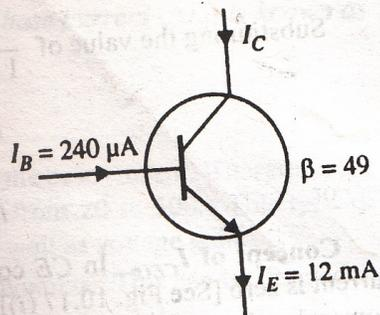

Fig. 10.18
**Example 10.10.** Find the  $\alpha$  rating of the transistor shown in Fig. 10.18. Hence determine the value of  $I_C$  using both  $\alpha$  and  $\beta$  rating of the transistor.
**Solution.** Fig. 10.18 shows the conditions of the problem.